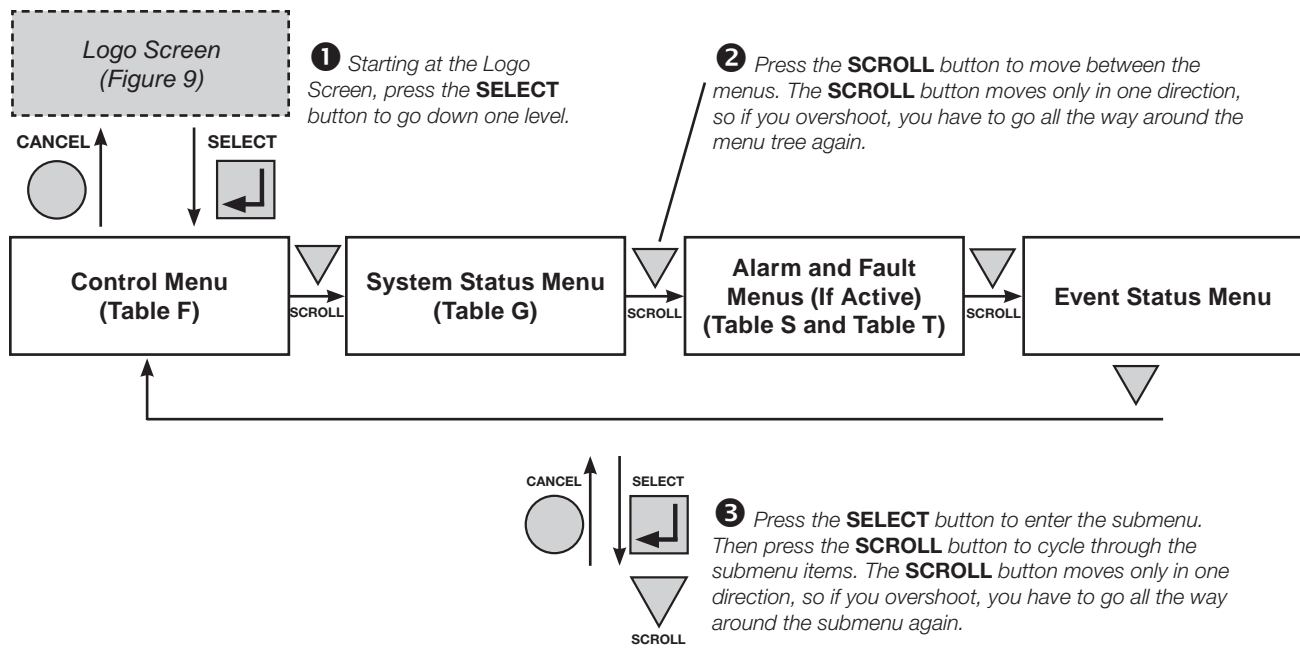

Figure 10 — LCD Menu Structure
- C Present operating mode - (LINE mode shown) See Figure 10.**